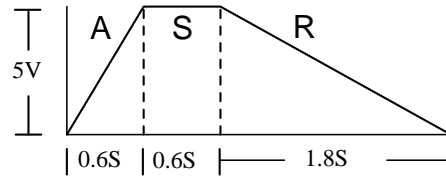

Figure 6: ADSR Waveform to be generated
- (c) Modify the program to generate the waveform shown in Fig. 6.